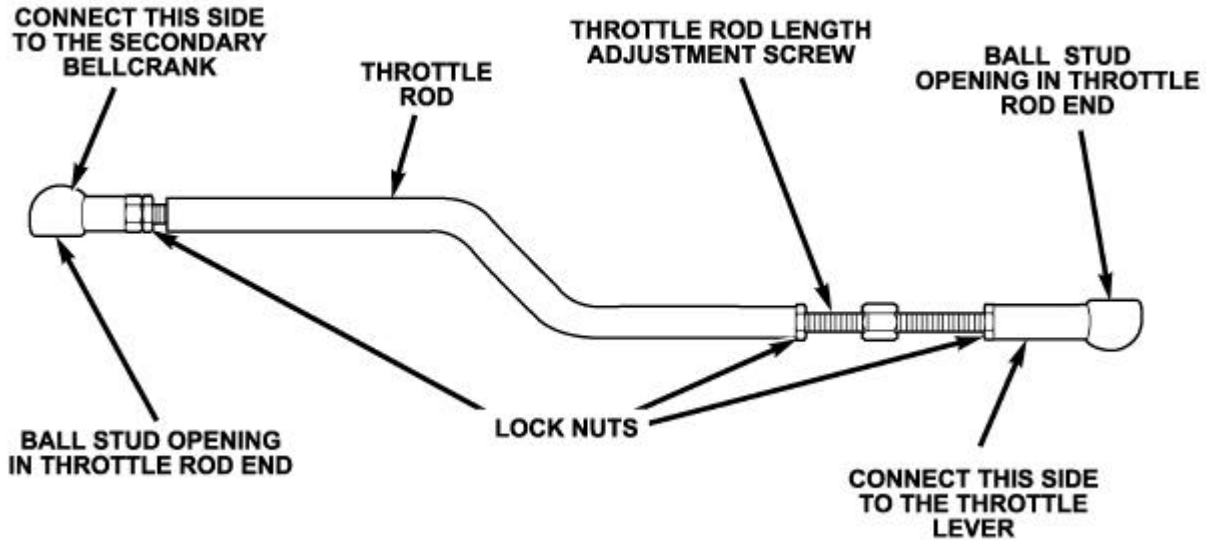

Figure 10
31. Remove the original throttle rod ends from the throttle rod (Figure 10).
32. Match the new throttle rod ends to the old throttle rod ends. Install the new throttle rod ends onto the original throttle rod. The rod end openings must be oriented as shown in Figure 10.
33. Tighten the secondary bellcrank rod end lock nut to 80 in. lbs. (9 N·m) (Figure 10).